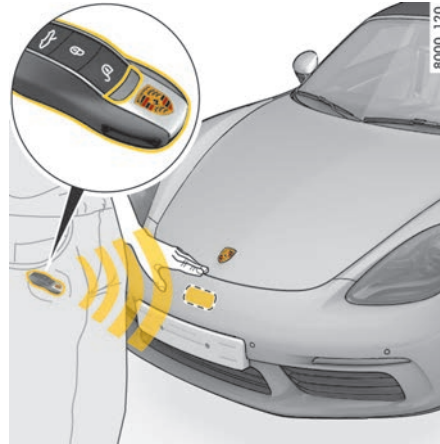

Fig. 123: Opening front luggage compartment lid with Porsche Entry & Drive
1. Hold your hand between the Porsche Crest and the number plate (Fig. 123).